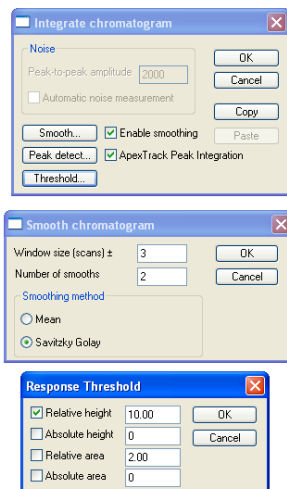

Figure 61 - Integration parameters
4. To integrate the chromatogram, click **Process > Integrate**, and set the parameters shown in Figure 61.